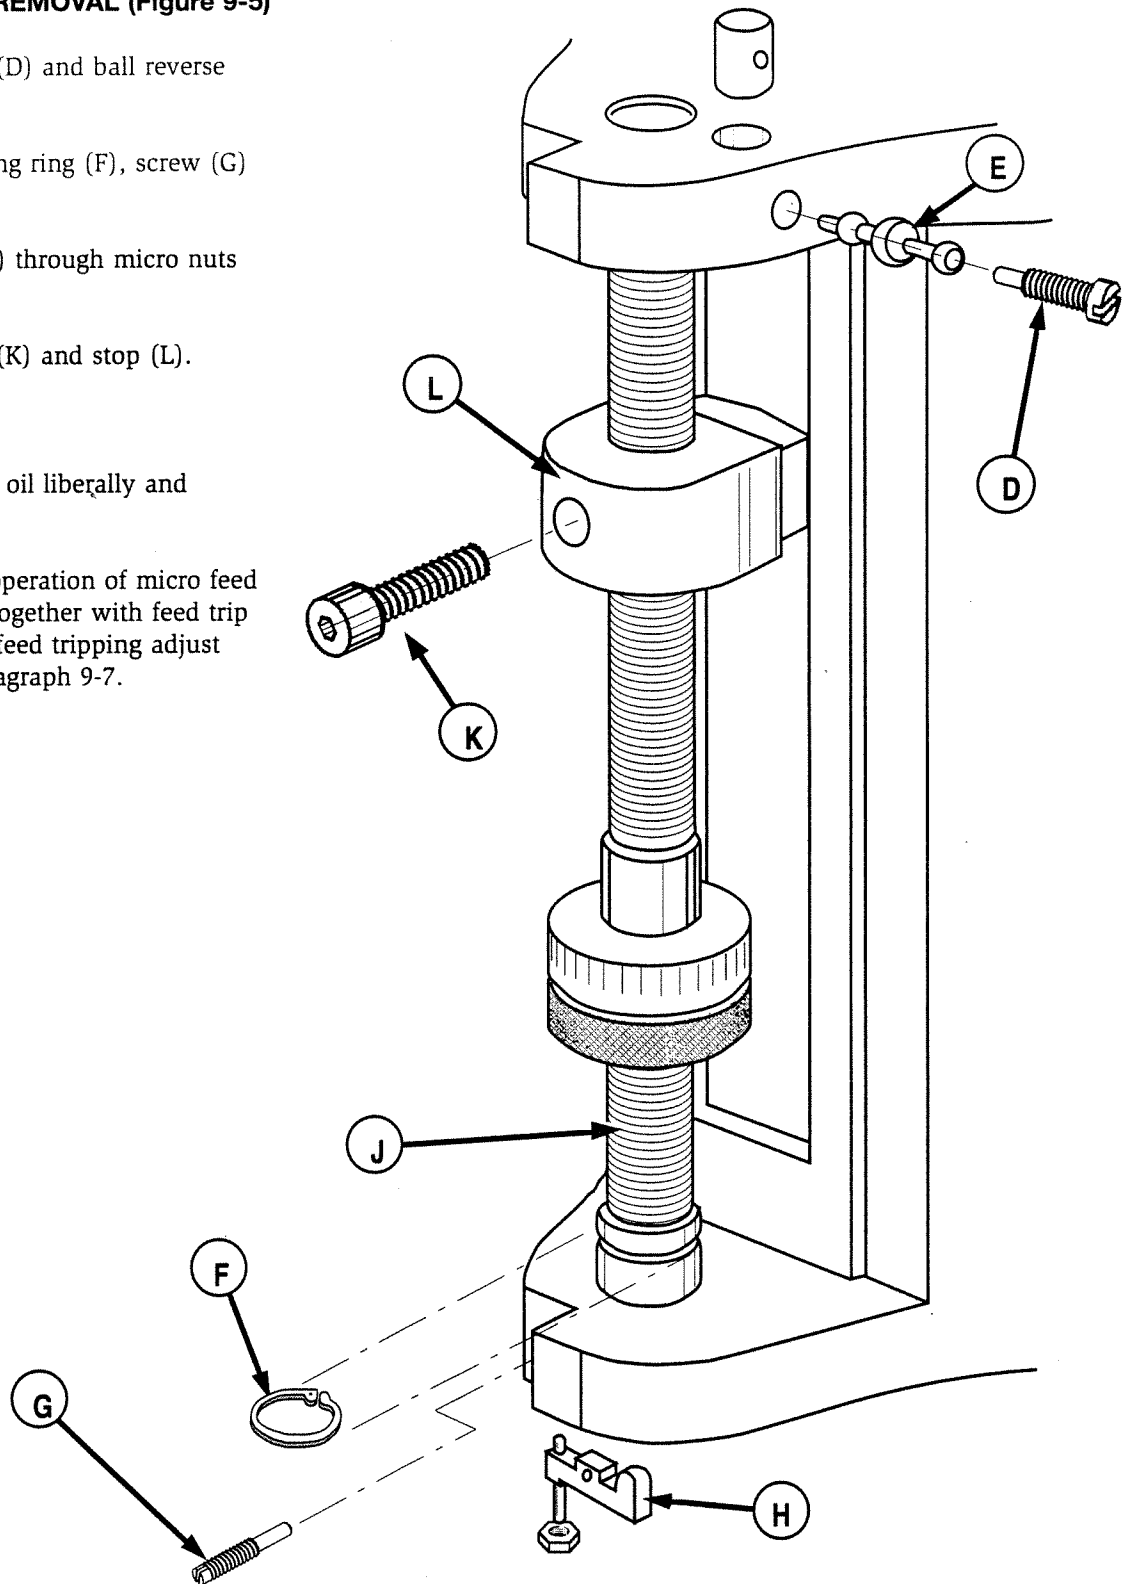

Figure 9-5. Micro Feed Trip Assembly and Quill Removal
9.5 MICRO FEED TRIP ASSEMBLY AND QUILL REMOVAL (Figure 9-5)